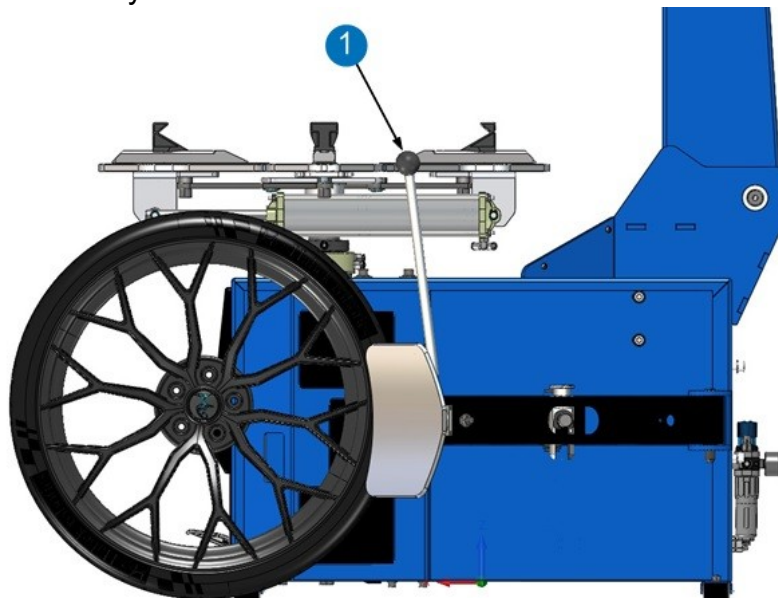

Fig. 9. Bead breaking.
Pull the bead-breaker arm (fig. 9 item 1) by hand, insert the wheel between the blade and the rubber pad on the side wall and move the blade to the tyre just at the edge of the rim.